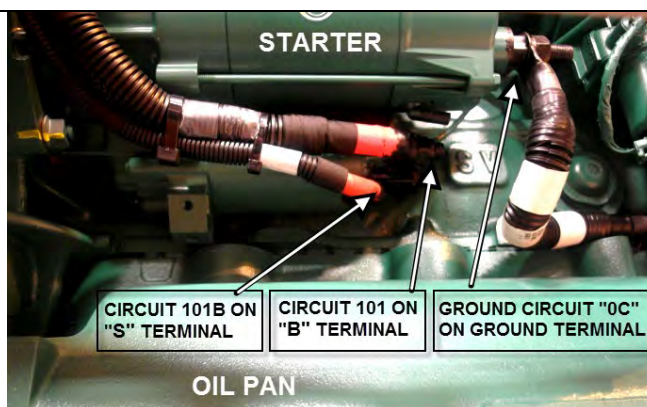

FIGURE 2
2. Using a voltmeter or multimeter, probe the starter **B** terminal and the **ground** terminal. Make sure that the voltage reading is 0 volt prior disconnecting the starter cables (FIGURE 2).
4. On the starter, disconnect circuits **0C**, **101** and **101B** (see FIGURE 2). Properly clean cable lugs as applicable using a brass wire cup brush, a Scotch-Brite pad or an emery cloth. Remove old Color Guard Rubber Coating as much as possible.